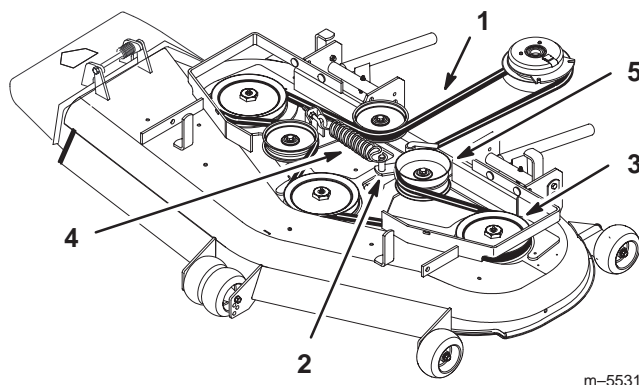

Figure 60
4. Remove the belt. Start at the outside pulley and rotate the belt off (Fig. 60).
7. Install the idler pulley and route the belt onto the other pulleys (Fig. 60).